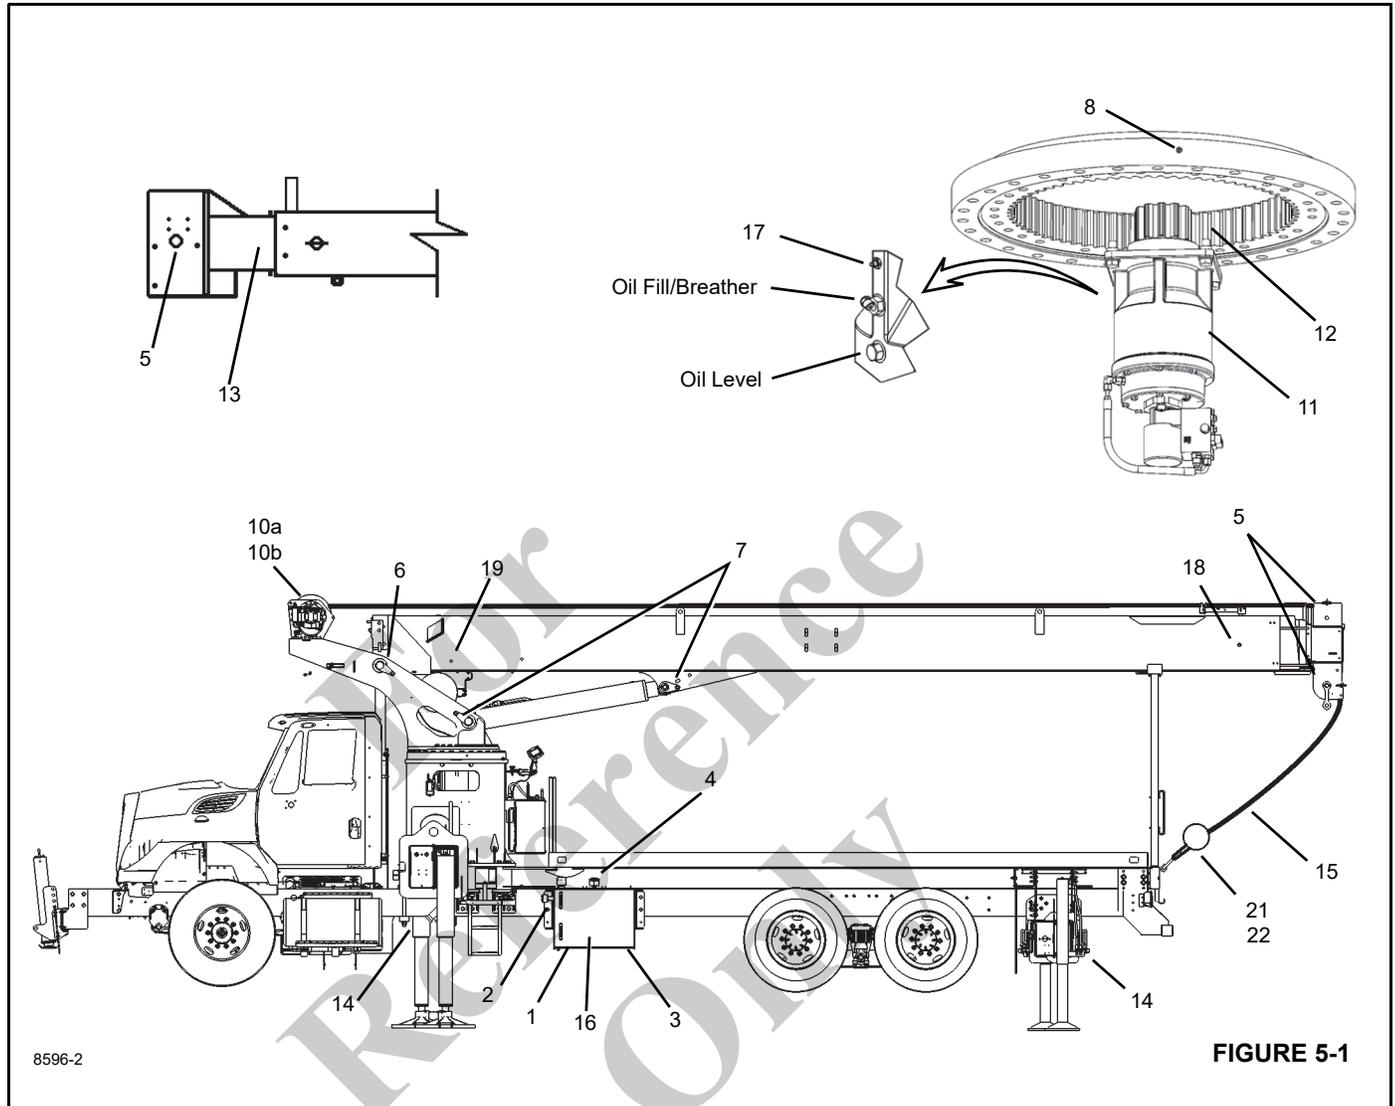

FIGURE 5-1
The following sections describe the lubrication points and gives the lube type, lube interval, lube amount, and application of each. Each lubrication point is numbered, and this number corresponds to the index number shown on the Lubrication Chart (Figure 5-1). Lube description and symbols are found in tables below.
The following describe the lubrication points and gives the lube type, lube interval, lube amount, and application of each. Each lubrication point is numbered, and this number corresponds to the index number shown on the Lubrication Chart (Figure 5-1). Lube description and symbols are found in tables below.
2. Lubricate the pin for the extend cable sheaves (18) (Figure 5-1) until a small amount of grease extrudes from the pin. From in front of the boom, look back through the sheave case at the pin to determine the amount of grease.